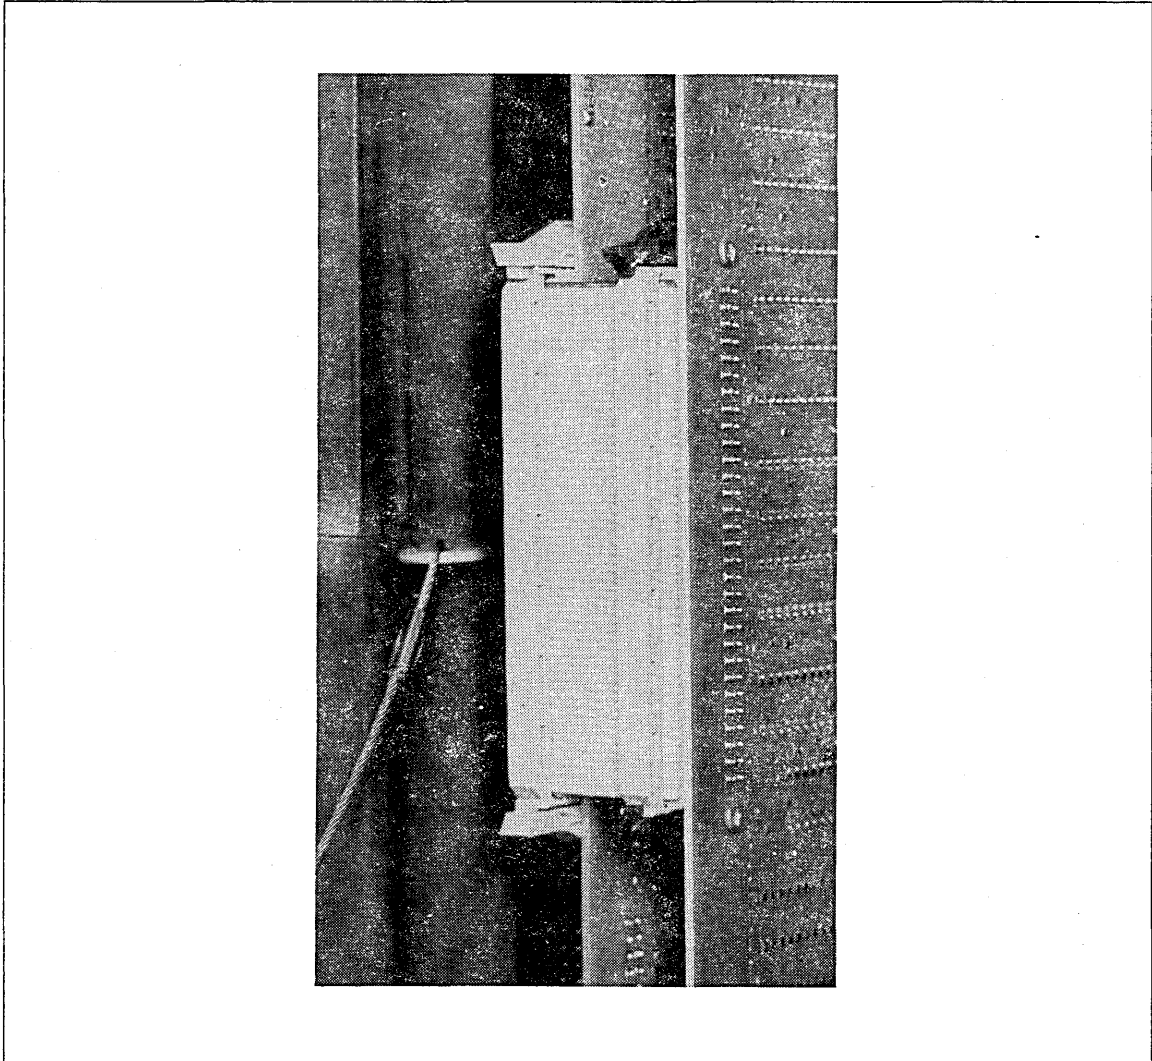

Figure 1-23. Installed MPB/PMM Connector Cable
5. Connect the MPB/PMM cable to the connectors of the front edge of the PMM and MPB boards (as shown in figure 1-23). Install the cable so the edge with the red stripe is on top.